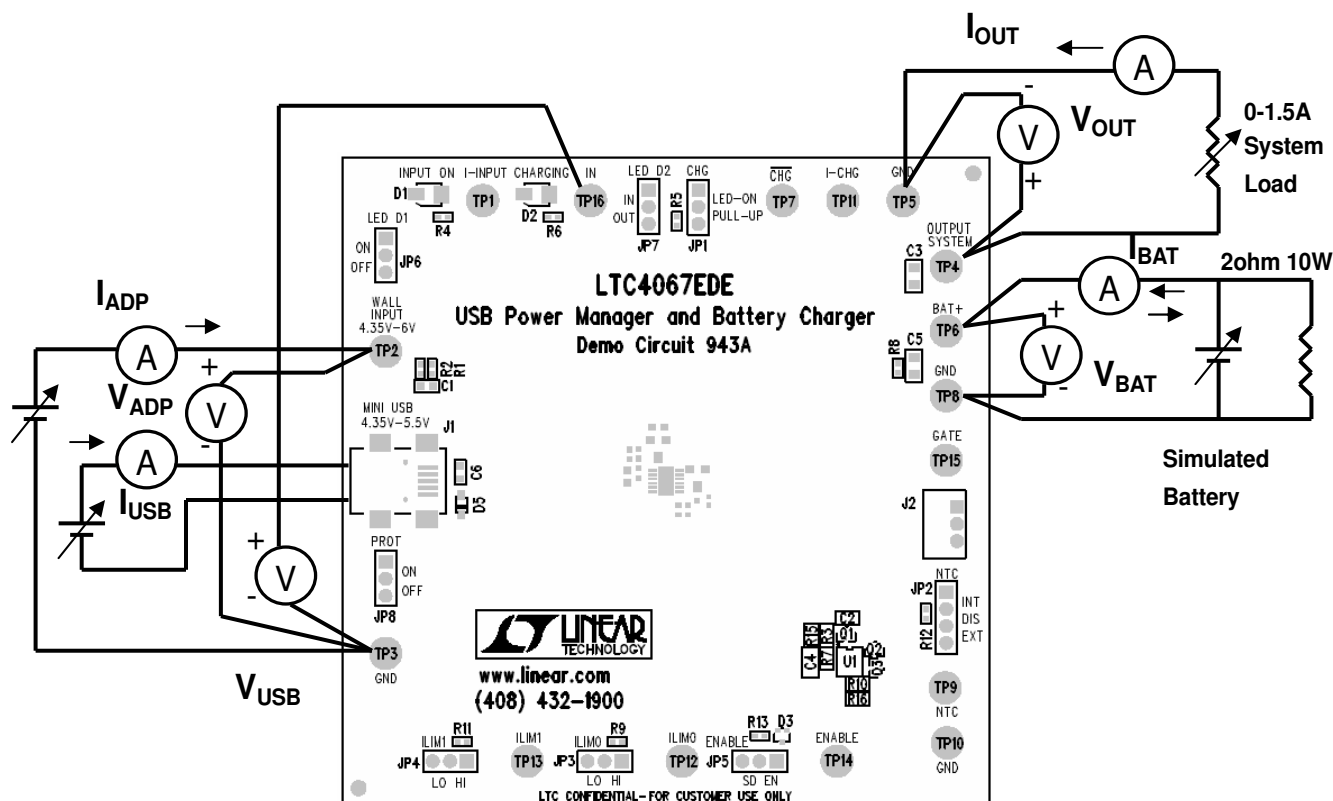

Figure 1. Proper Measurement Equipment Setup
Demonstration circuit 943 is easy to set up to evaluate the performance of the LTC4067. Refer to Figure 1 for proper measurement equipment setup and follow the procedure below:
1. With power off, connect the input power supply, meters and output load as shown in Figure 1. For the USB input, use an adjustable 0-5V 0.5A power supply and a cable with a USB Mini-B connector that plugs into J1. For the wall adapter input, use a 0-10V 2A adjustable power supply. For simulating the battery, use a 0-5V adjustable power supply that can deliver at least 3A, in parallel with a 2 Ω 10W power resistor. Attach a 0-1.5A adjustable load to the System Output.